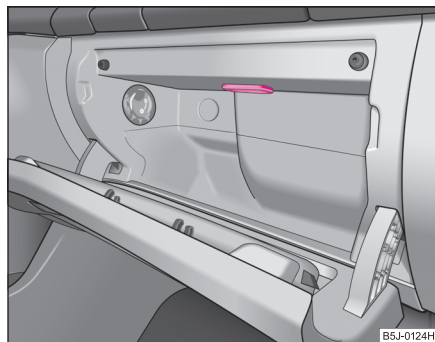

Fig. 175 Remove lighting in storage compartment on front passenger side
- Push in a knife or similar from the side between the light and the glove compartment ⇒ fig. 175. Lever out the light carefully.